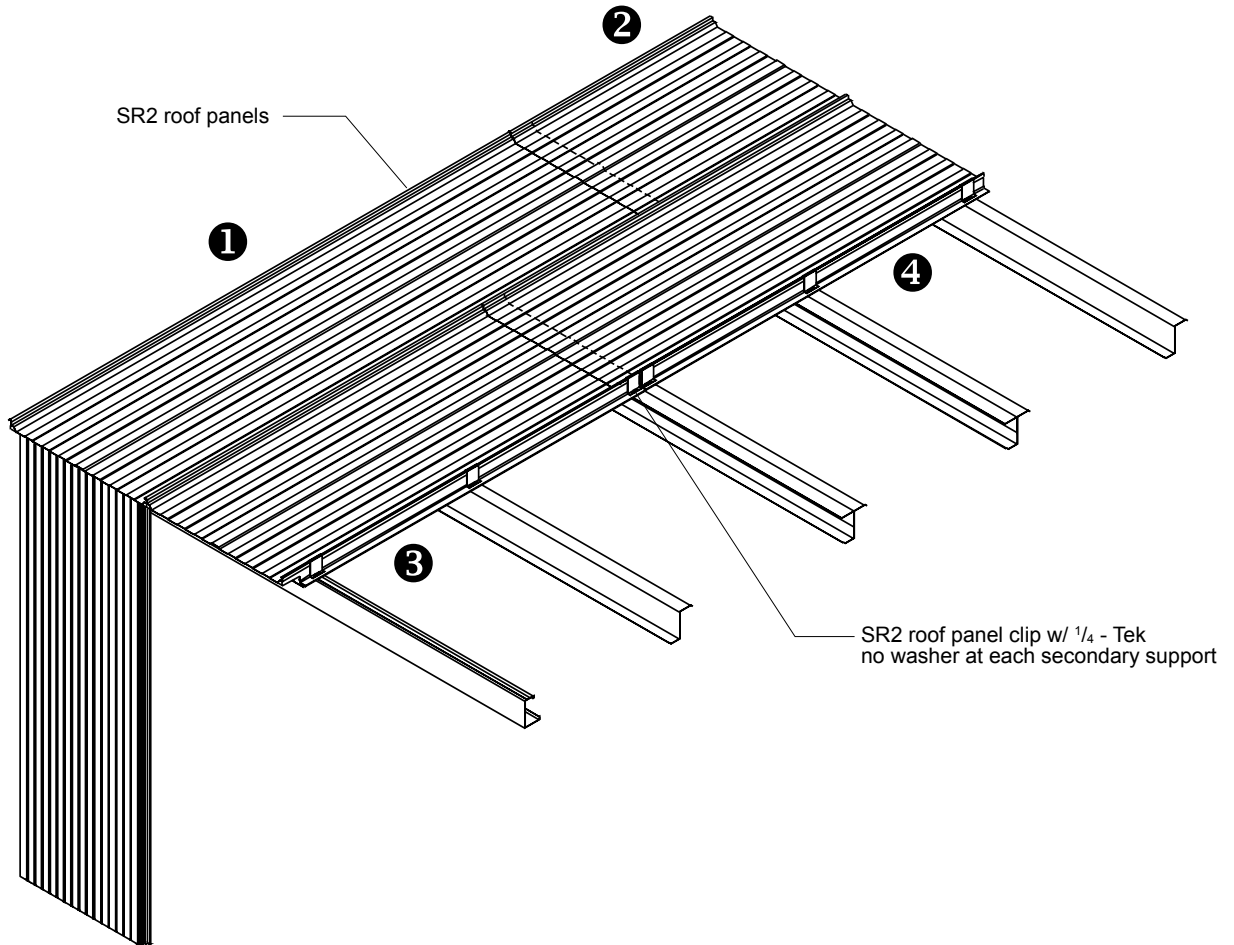

Figure 8
16.1 SR2 roof panels must be installed in a specific sequence. This ensures the correct lapping of the side and end laps (see figure 8, below). The panel numbers correspond to the order of installation.